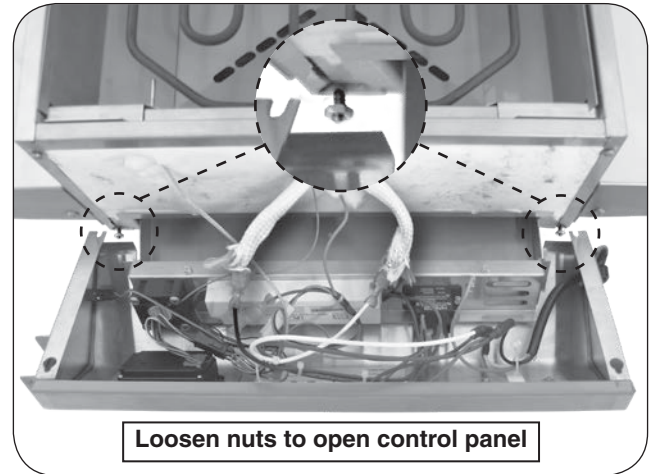

Fig. 20-1 Remove control panel
4. Loosen the nuts underneath the control panel with a 11/32" wrench, then lift the panel until it is freed from the screws. Carefully rest the panel on the drip tray. Reference Fig. 20-1.